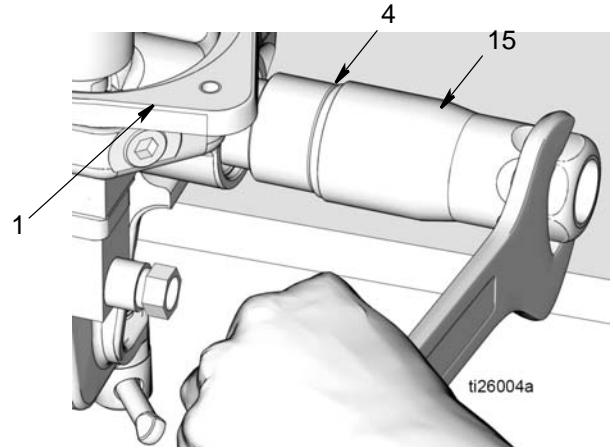

FIG. 23
- e. Discard o-rings (7, 41) and nut (5) according to all regulations for proper disposal
- 16. Remove the outlet check valve (15) from the pump base (1) (FIG. 23). Remove o-ring (4) from outlet check valve. Dispose of o-ring according to all regulations for proper disposal.